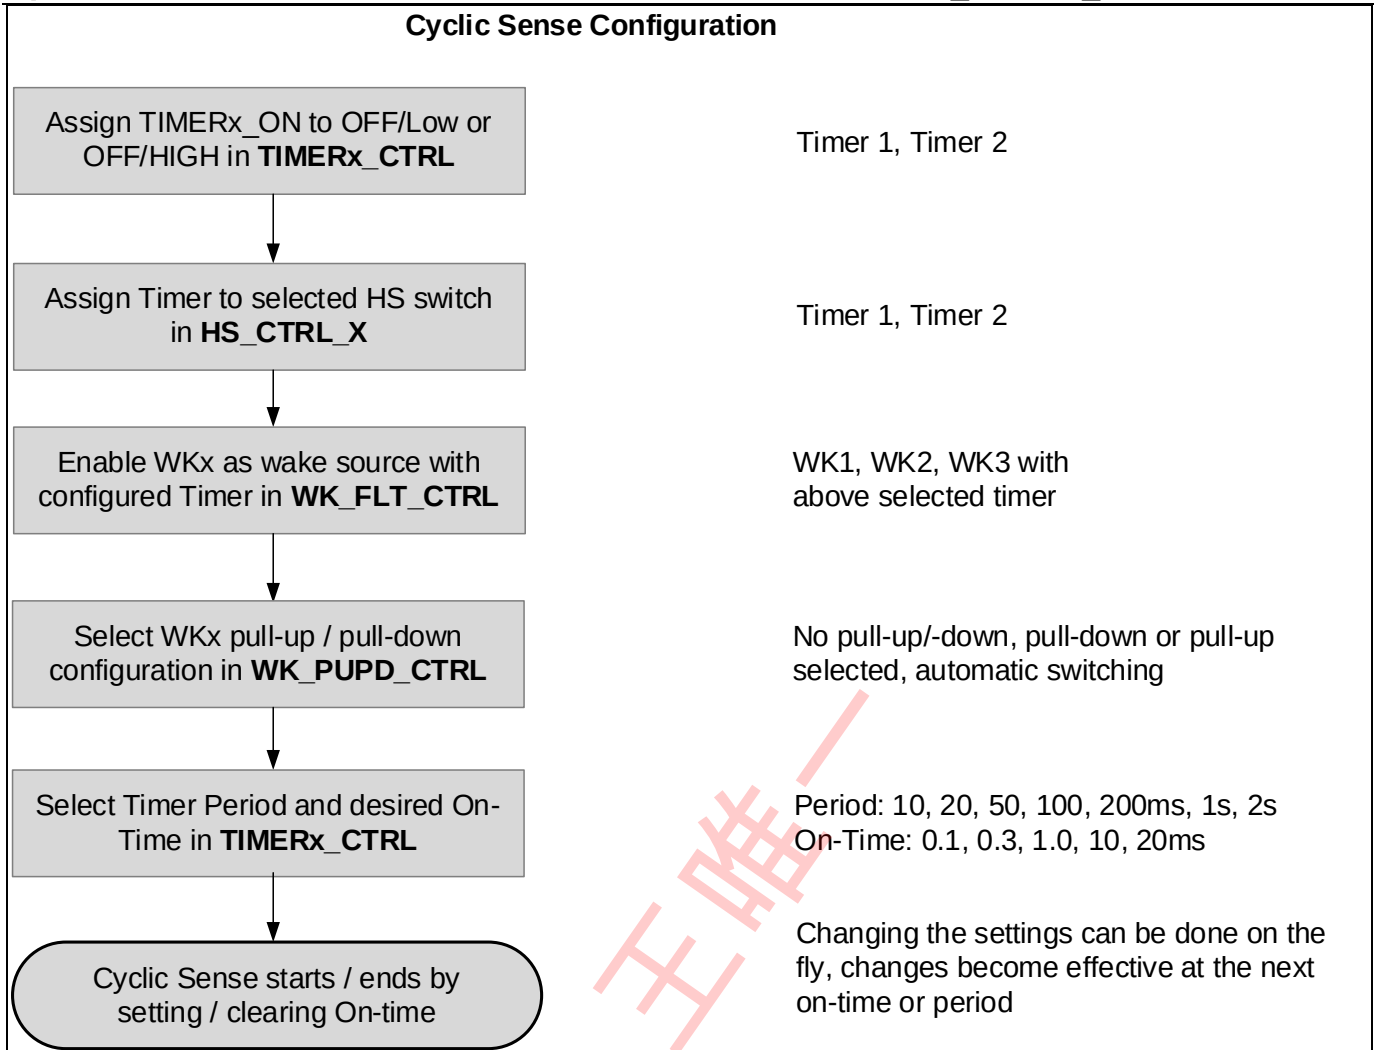

Figure 6 Cyclic Sense: Configuration and Sequence
The configuration sequence for the cyclic sense function is illustrated in Figure 6. All configuration steps must be completed before setting the on-time parameter in the **TIMERx_CTRL** registers. The options “OFF/LOW” and “OFF/HIGH” define the default voltage level of the corresponding high-side (HS) driver prior to activating the cyclic sense function. This setting helps to prevent unintended wake events that could occur due to voltage transitions when cyclic sensing begins. The cyclic sense operation (TimerX) starts automatically once the on-time value is configured, regardless of the specific high-side or filter assignments. Therefore, the selection of the appropriate timer (refer to Configuration C/D in **Chapter 12.2.1**) must be completed before enabling the timer.